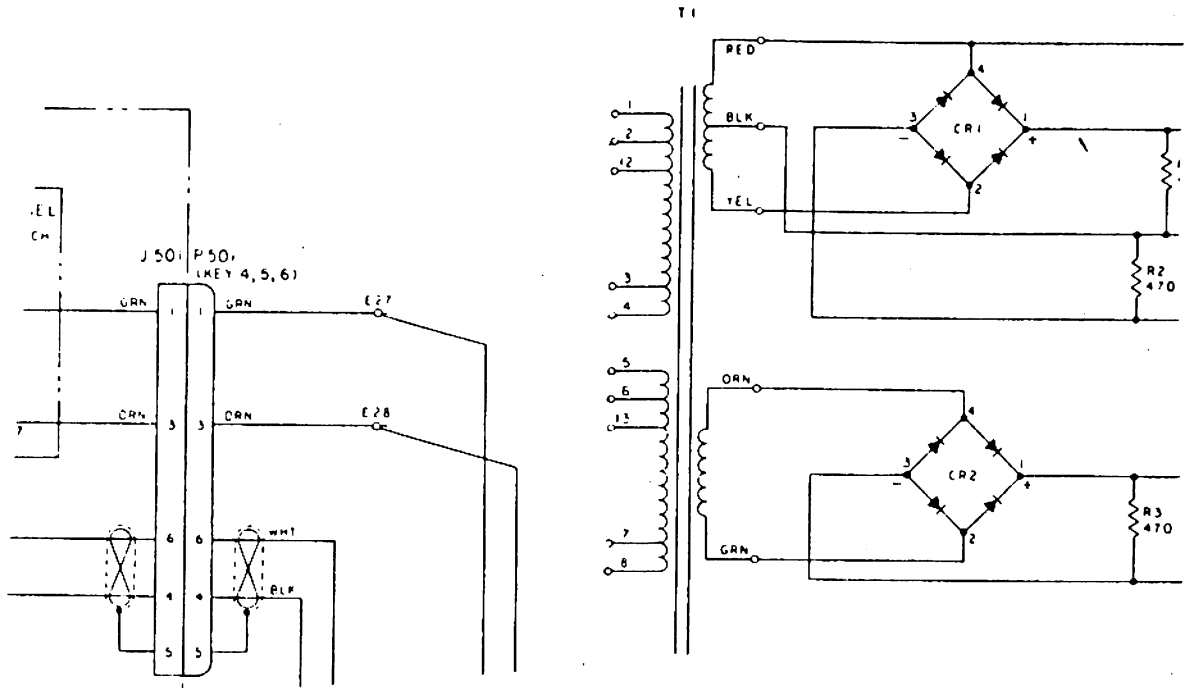

Figure 3
- a) Refer to Figures 3 and 4, and Tables 1 and 2.
- c) Figures 3 and 4 connections have been left blank for the convenience of the technician actually performing the modification. (Draw in the connections required.)